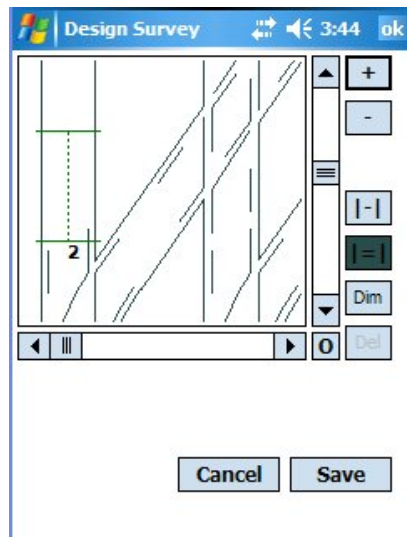

Figure 9
2. Select 'Save' from the bottom right hand of the screen, see *Figure 9*
1. Multiple measurement locations can be added to the survey by selecting the  icon. This can be used for commands such as "Measure track gauge at each sleeper". Draw a line across the track at the position of the first measurement, draw another line at the position of the last measurement, see *Figure 9*